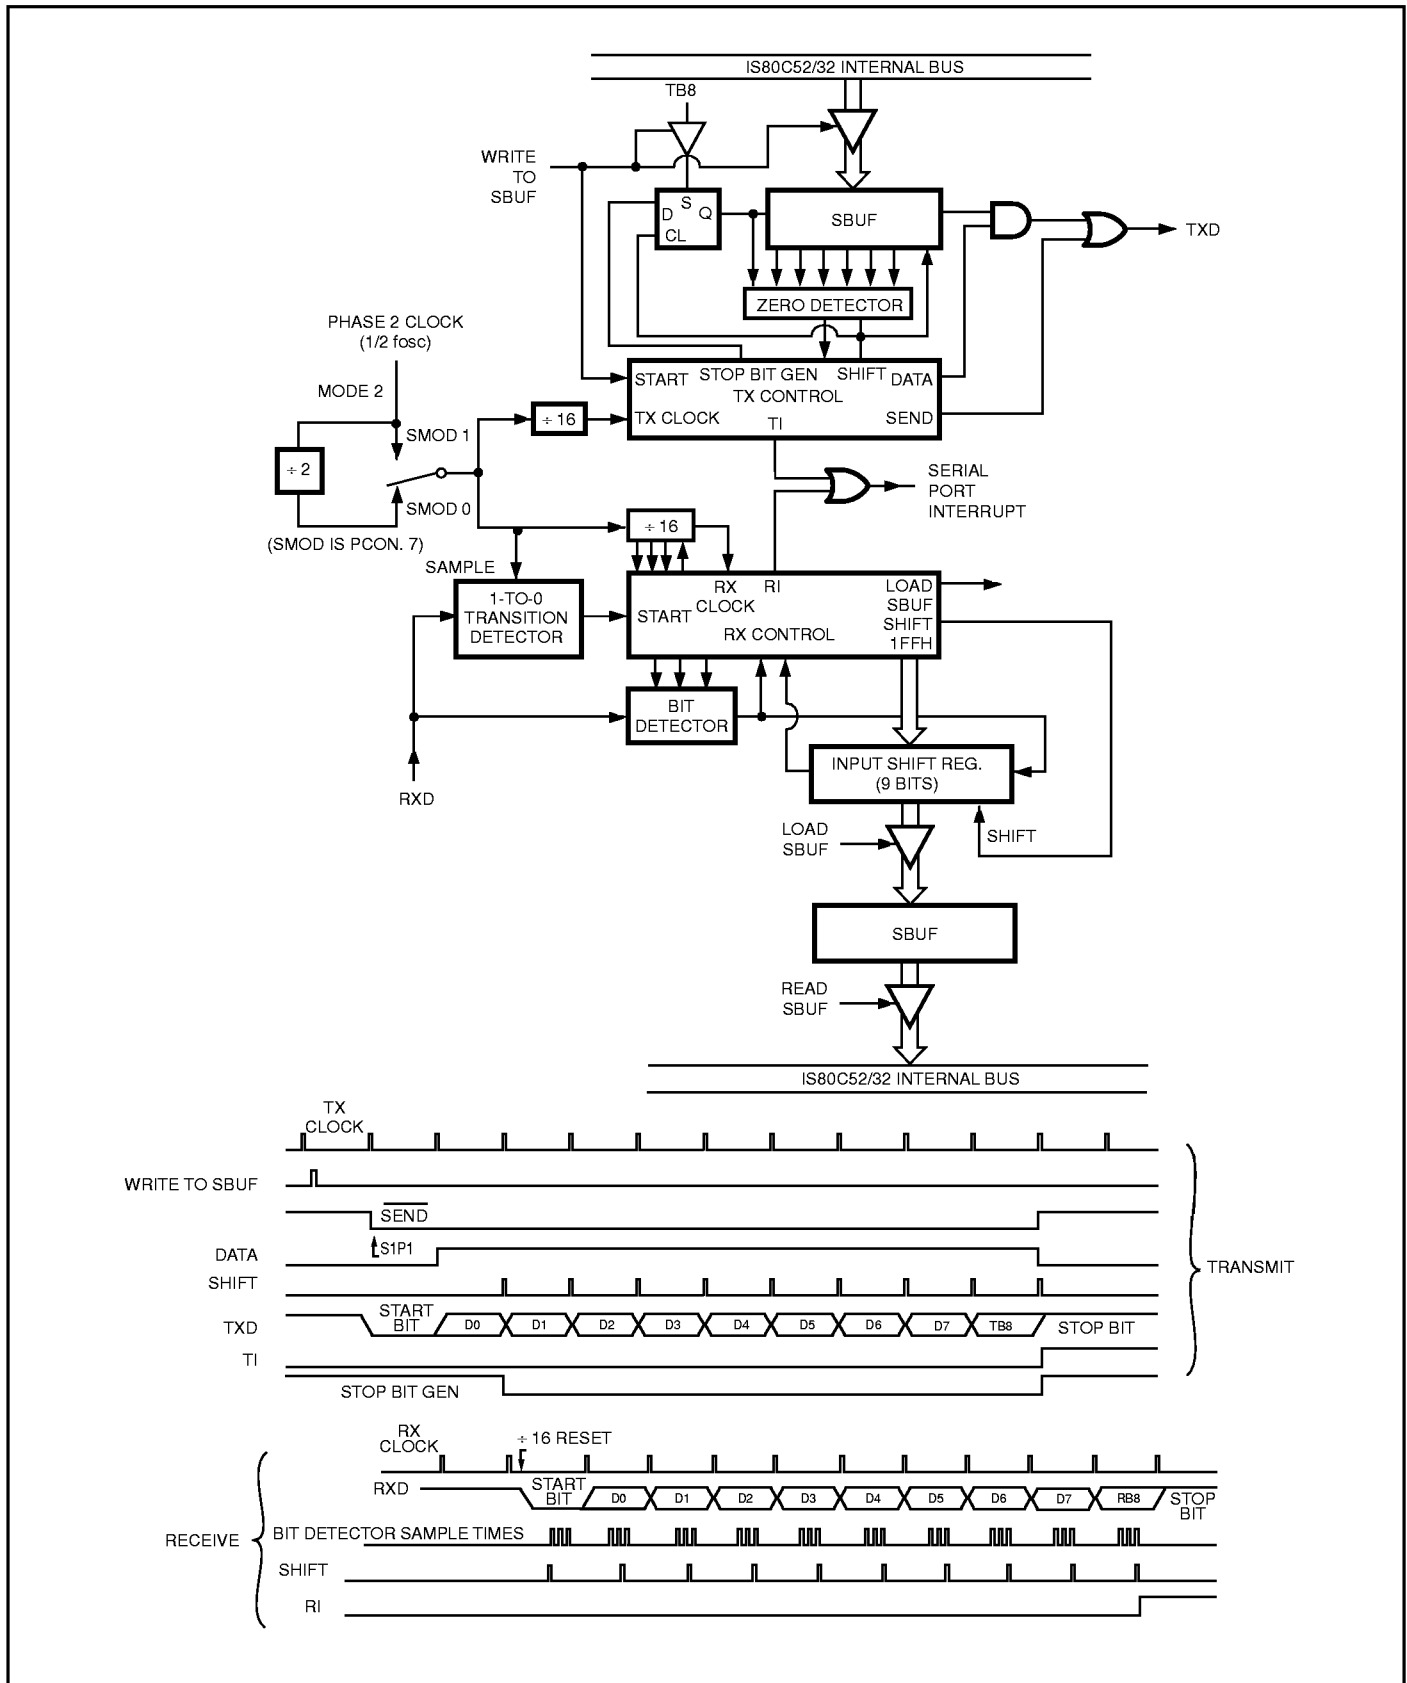

Figure 16. Serial Port Mode 2
Eleven bits are transmitted (through TXD) or received (through RXD): a start bit (0), eight data bits (LSB first), a programmable ninth data bit, and a stop bit (1). On transmit, the ninth data bit (TB8 in SCON) can be assigned the value of 0 or 1. Or, for example, the parity bit (P, in the PSW) can be moved into TB8. On receive, the ninth data bit goes into RB8 in Special Function Register SCON, while the stop bit is ignored. The baud rate is programmable to either 1/32 or 1/64 the oscillator frequency (see Figure 16).
Figures 16 and 17 show a functional diagram of the serial port in Modes 2 and 3. The receive portion is exactly the same as in Mode 1. The transmit portion differs from Mode 1 only in the ninth bit of the transmit shift register.